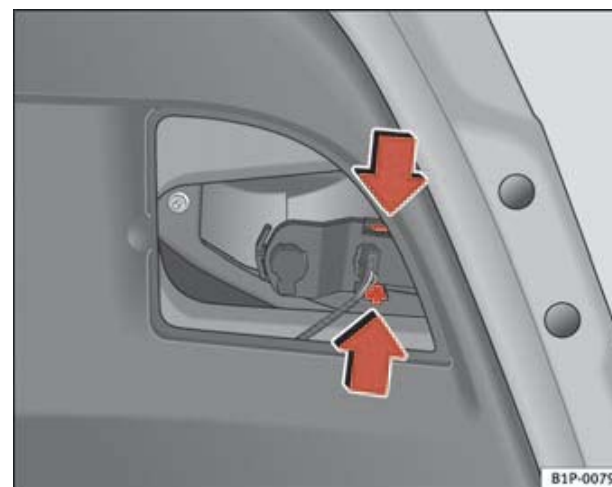

Fig. 172 Removing the lampholder
- Take the lampholder out pressing on the securing pins and extract it outwards ⇒ page 244, fig. 172.